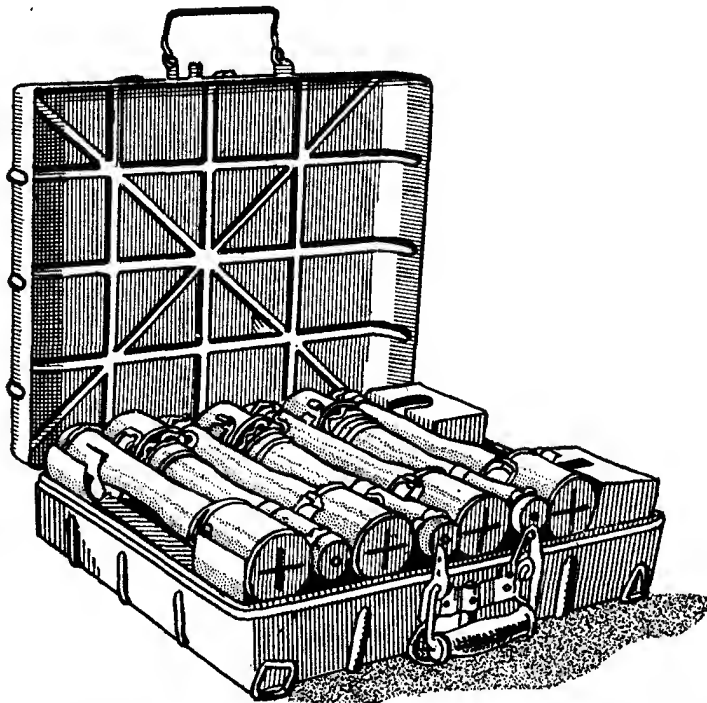

Figure 26.—Method of carrying and packing stick-type grenades.
(1) A metal case holding 15 grenades and 15 detonators (see fig. 26);
(2) A sleeveless jacket fitting over the blouse. (In this jacket there are 10 pockets, 5 in front and 5 in the back, in which the grenades are carried with the heads down.)
(3) The belt with the grenades stuck in, handle first.